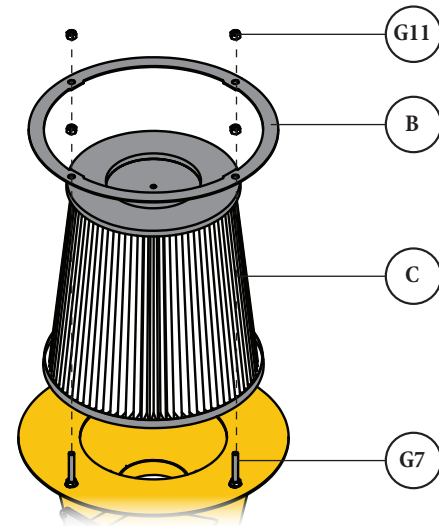

FIG. 15
Slide the Filter Hold-Down Ring (B) over the Filter (C) and the previously installed bolts (G7) and secure in place using four Nylock Nuts (G11) [FIG. 15].